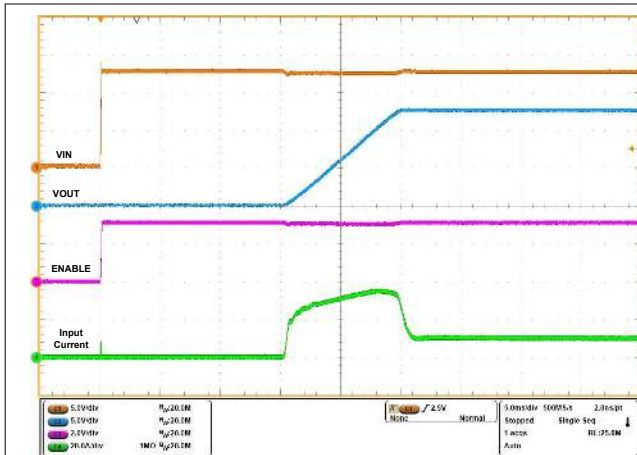
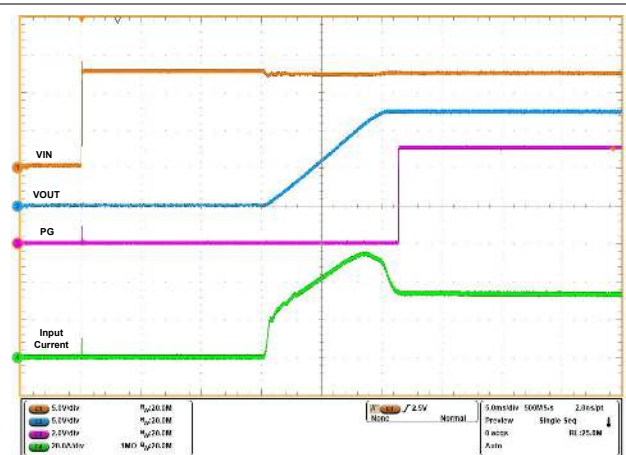

Figure 5-2. TPS25985 eFuse Hot Plug Profile (V_{IN} Stepped Up from 0 V to 12 V, $C_{OUT} = 18.47$ mF, $C_{DVDT} = 33$ nF, and $R_{LOAD} = 1.2$ Ω)
Figure 5-3. TPS25985 eFuse Hot Plug Profile (V_{IN} Stepped Up from 0 V to 12 V, $C_{OUT} = 18.47$ mF, $C_{DVDT} = 33$ nF, and $R_{LOAD} = 0.37$ Ω)
Figure 5-2 and Figure 5-3 show the examples of inrush current captured on the TPS25985EVM eFuse Evaluation Board with two (2) devices in parallel during the hot plug event.